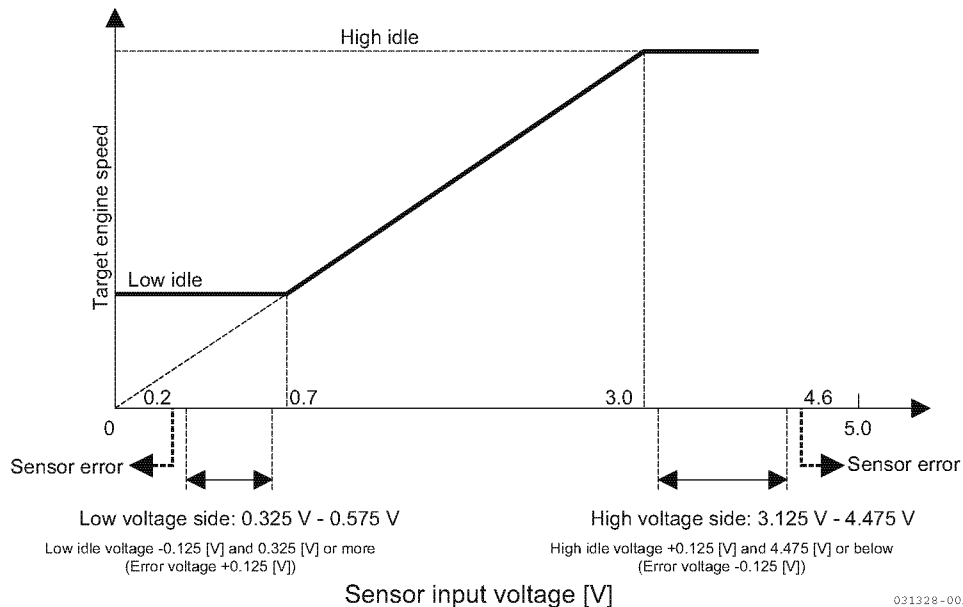

Figure 14-25 Required accuracy by acceleration sensor
*Note: E-ECU has a detection error in terms of the electric circuit and a hysteresis characteristic in terms of the software for the input voltage from the acceleration sensor. The sum of these amounts to ± 0.125 V. Therefore, if the acceleration sensor voltage is used with the standard setting (0.7 to 3.0 V), the voltage must at least fall in a range shown in **Figure 14-25**. E-ECU detects an acceleration sensor error if the input voltage from the acceleration sensor is 0.2 V or less or 4.6 V or more.*